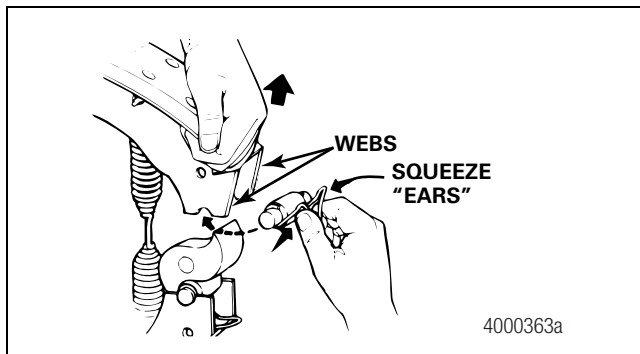

Figure 5.26
4. Pull each brake shoe away from the camshaft to enable you to install the brake shoe roller and roller retainer. Press the retainer ears to fit into the retainer between the brake shoe webs. Figure 5.26.